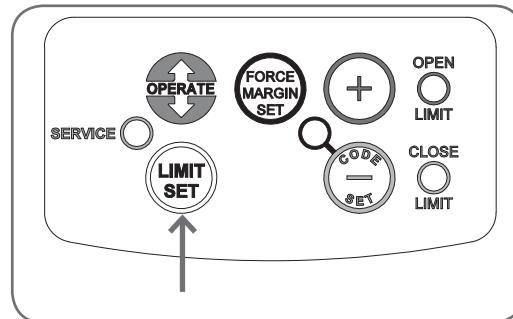

Fig.6.4.3
- Press and hold Limit set button for six (6) seconds (Fig 6.4.3) until you hear three beeps and the red Close Limit LED starts to flash.